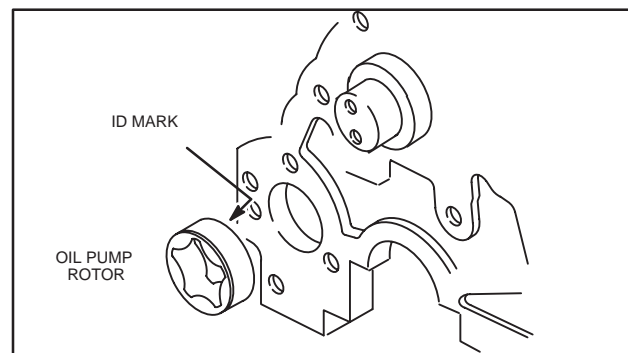

Fig. 13 – Installing Oil Pump Rotor
1. Lubricate oil pump rotor with engine oil and install in cylinder block, Fig. 13.